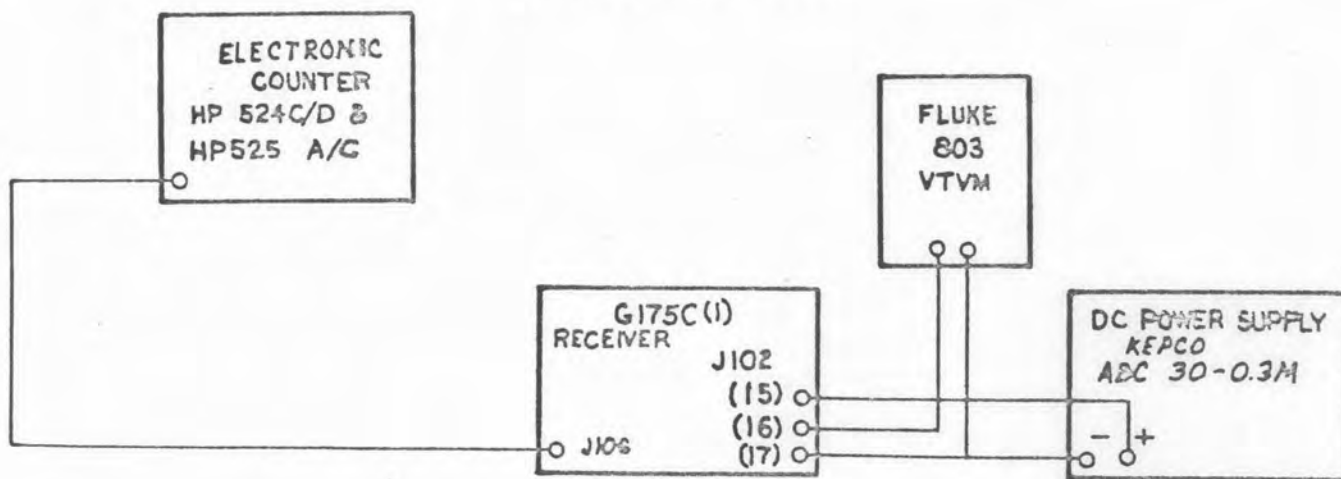

Figure 5-25
- a. Connect equipment as shown in figure 5-25.